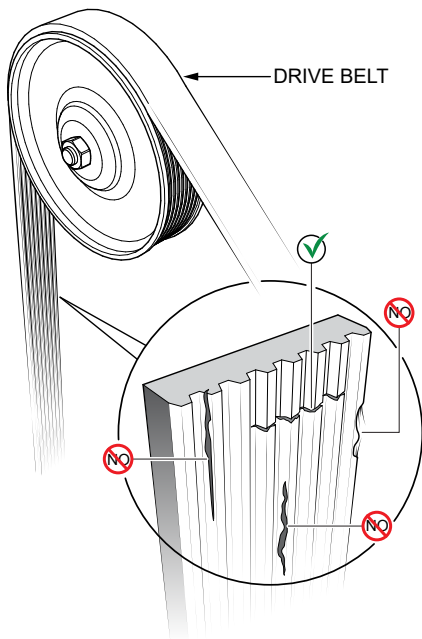

Figure 75. Drive Belt Inspection
1. Inspect the **drive belt** (Figure 75) for damage and wear. Horizontal cracks (across the belt) are acceptable. Vertical cracks (direction of belt ribs) that intersect with horizontal cracks are not acceptable.